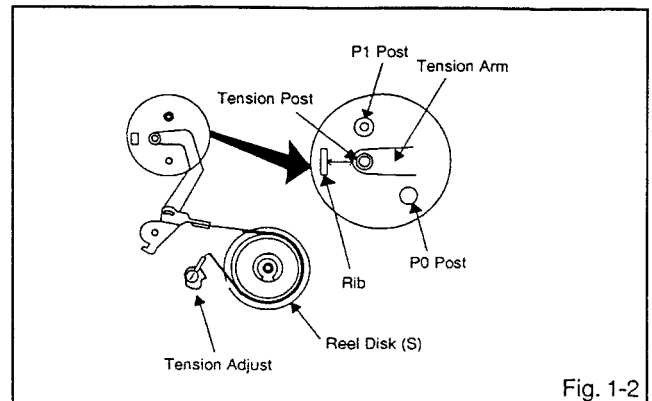

Fig. 1-2
1. Turn on the power and set to the PLAY mode adjust the Tension so that the Tension Post is at the position of $0.3\text{mm} \sim 0.5\text{mm}$ from the Rib. (Refer to **Fig. 1-2**)